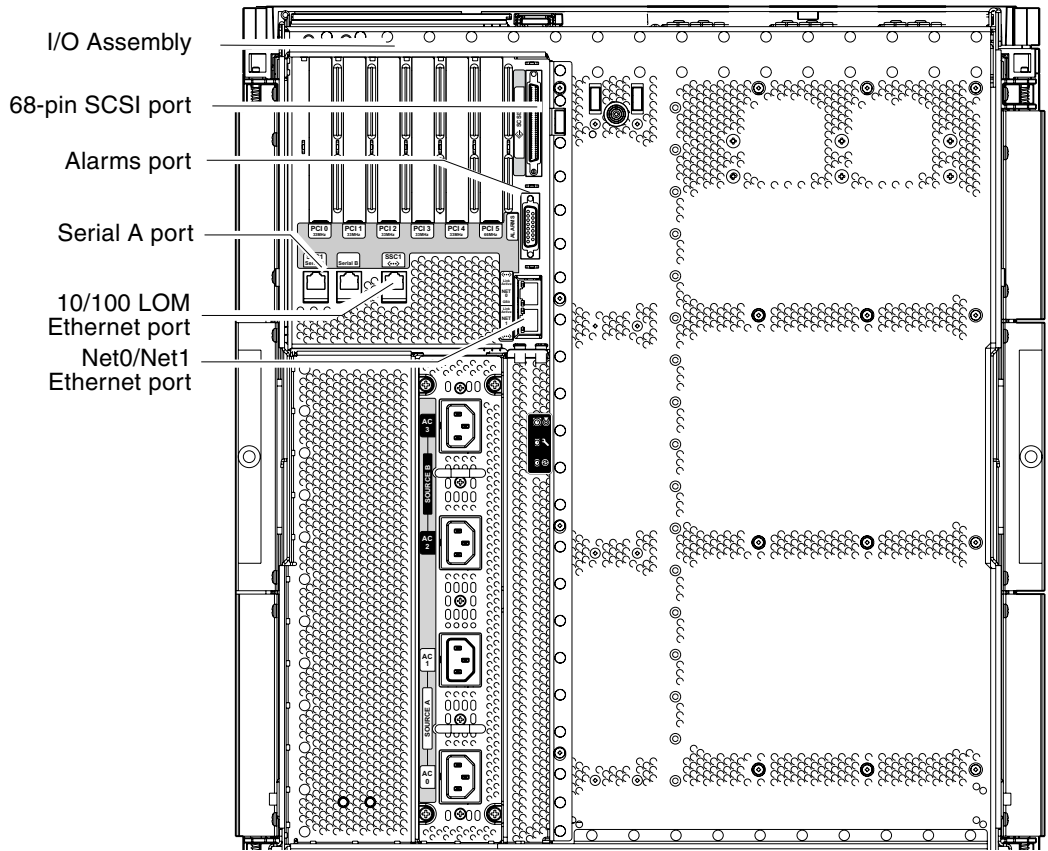

FIGURE 1-26 System Controller and I/O Assembly Locations
1. **Connect one end of the I/O Ethernet cable to the Net0/Net1 Ethernet port (FIGURE 1-26).**